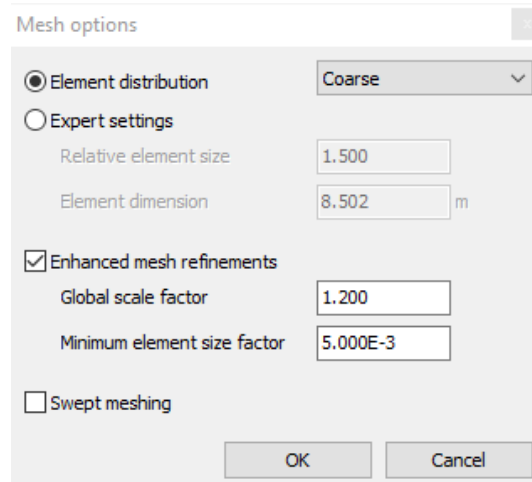

Figure 12: Mesh options window
4. Change the **Element distribution** to **Coarse** in the **Mesh options** window as displayed on Figure 12 (on page 20).